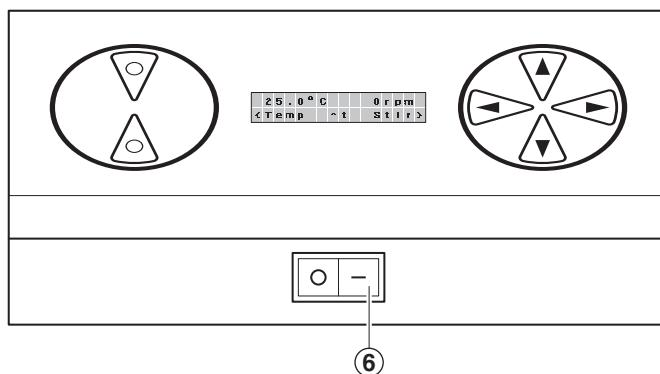
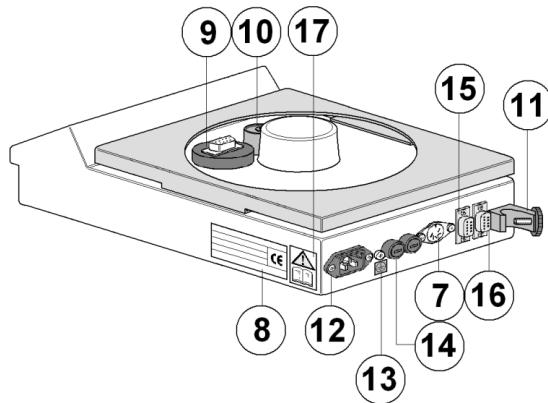

Figure 7-2
Figure 7-3
- 7.4.1. Connect the Mains cord and moulded IEC plug and lead set cable supplied with the Digi-Mantle into the mains power inlet socket (see figure 7-3, item12). Press the On/Off switch (see figure 7-2 item 6) to the on position.